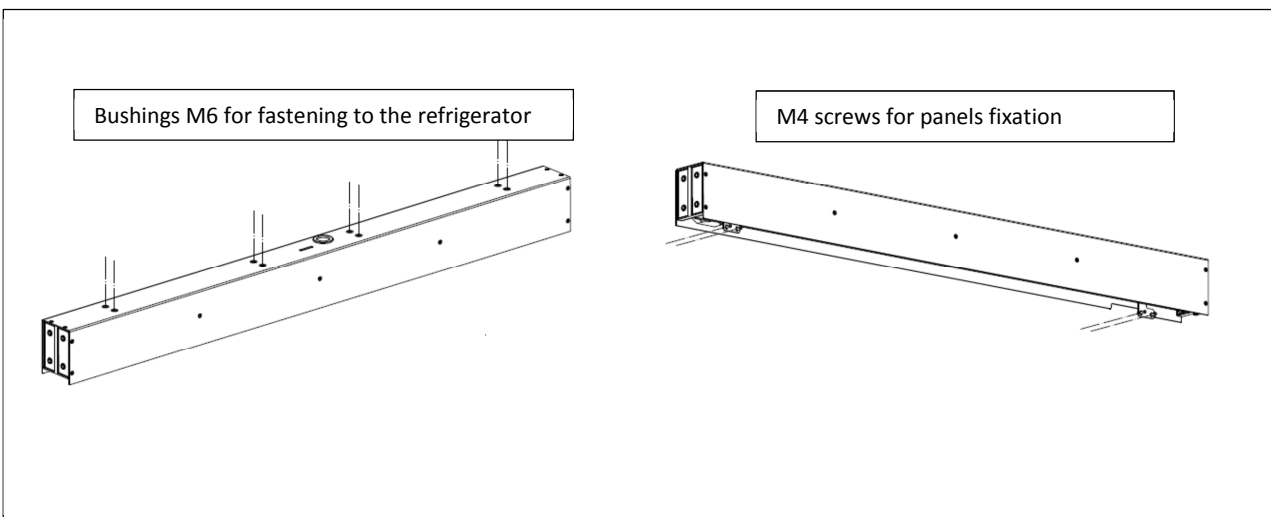

Figure 3-1. Scheme of the mechanical installation of the header
- a. Fasten the header to the support frame, as shown in Figure 3-1
2. Fasten the panel to the header, as shown in Figure 3-1